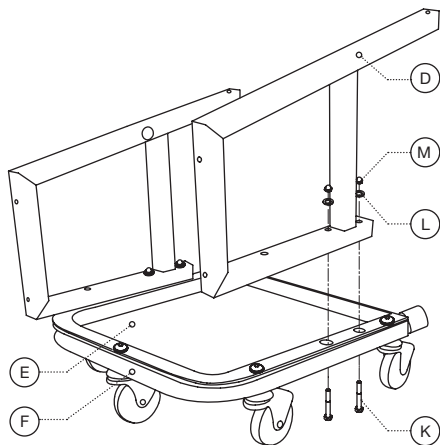

Figure 2 – Assembling Tool Tray and Casters
2. Attach two creeper Side Frames (D) to Caster Frame (F) with two M8 x 60 Hex Head Bolts (K), two Washers (L) and two Acorn Nuts (M) each (Fig 2).